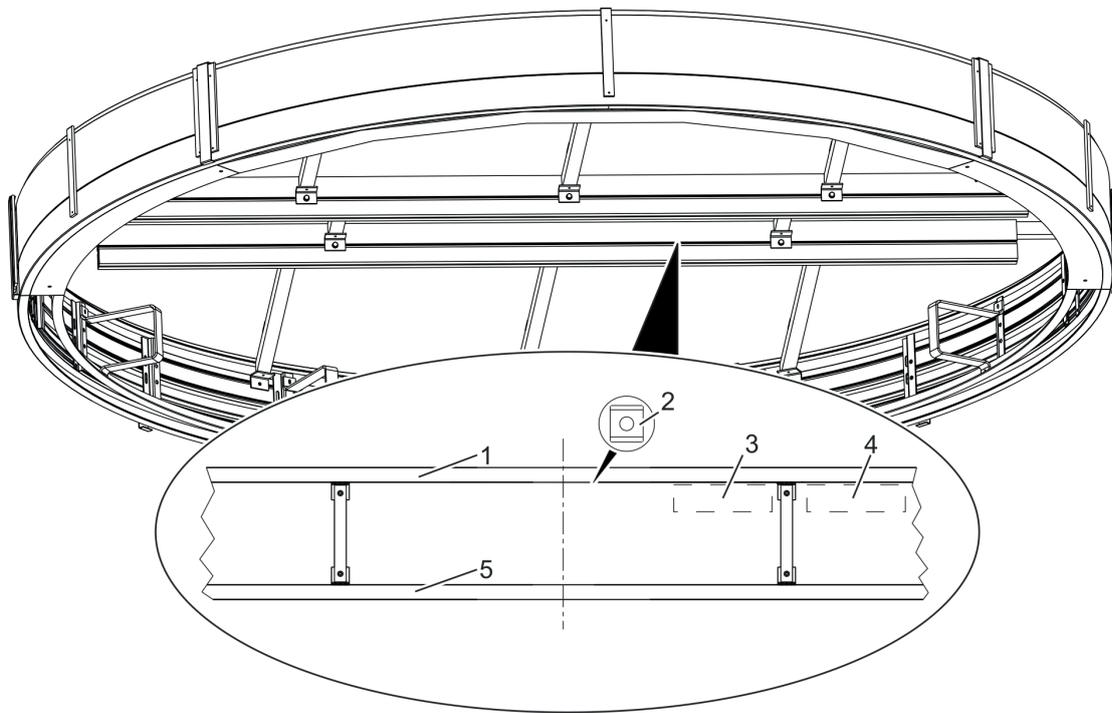

Fig. 67 Distributing the sliding nuts
3. Let the slip ring cable hang down next to the operator (on the motor / Hall sensor connector Fig. 67/ 9 side) and connect it to the control unit after the motor is installed.
4. Connect the motor and Hall effect sensor cables to the operator (Fig. 67/9).